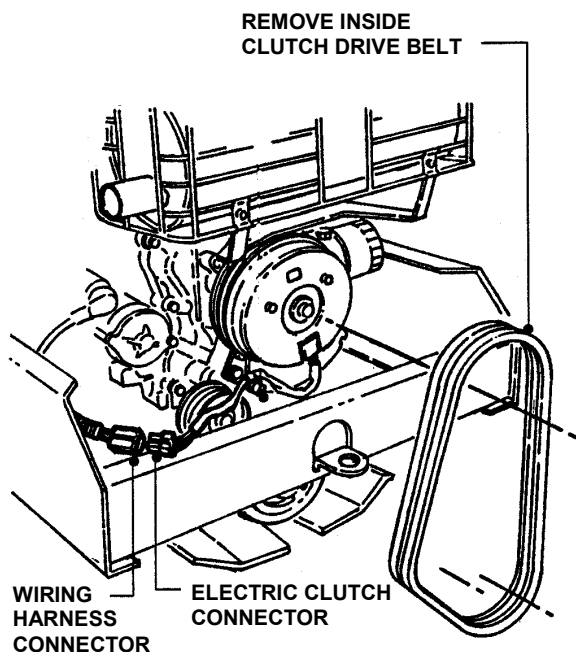

FIGURE 1.1
- A.** Depress belt idler and remove the inside (forward) clutch drive belt. See Figure 1.1.